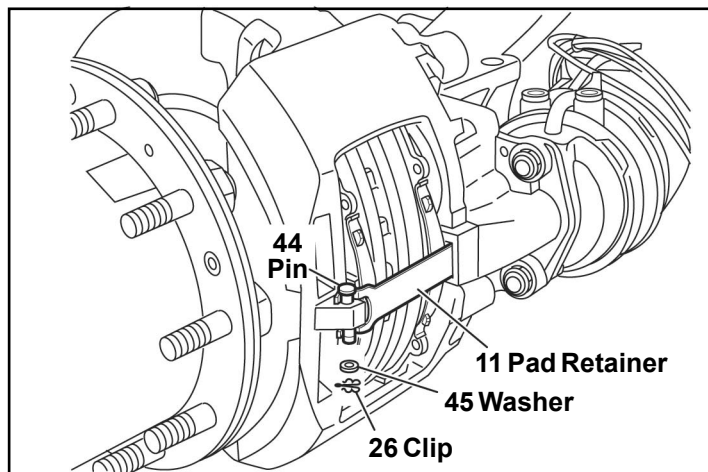

FIGURE 7 - BRAKE PAD INSTALLATION
Install the supplied washer (45) and spring clip (26) to the pad retainer pin (44). It is recommended that the pad retainer pin (44) be installed pointing downwards (see Figure 7).